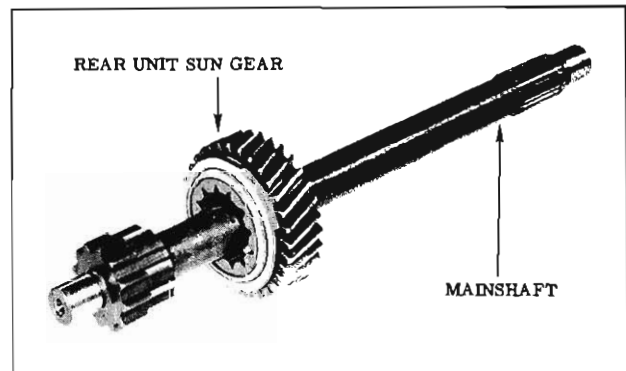

Fig. 6-101 Installing Sun Gear
25. Assemble rear unit sun gear to mainshaft, if removed, and install through rear carrier. (Fig. 6-101)